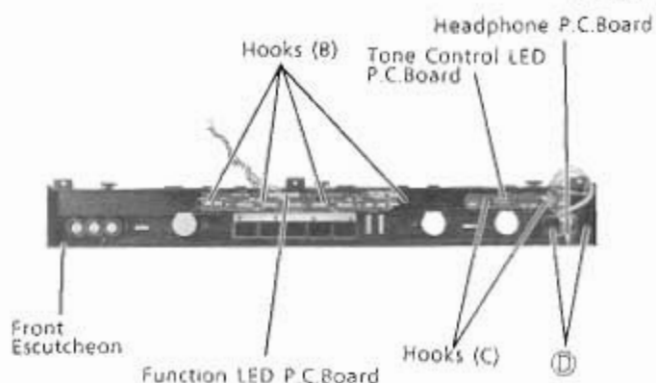

Figure 5
- (1) After removal of Front Escutcheon, remove four hooks (B) as shown in Figure 5.
- (1) After removal of Front Escutcheon, remove two hooks (C) as shown in Figure 5.
- (1) After removal of Front Escutcheon, remove two screws marked "D" as shown in Figure 5.